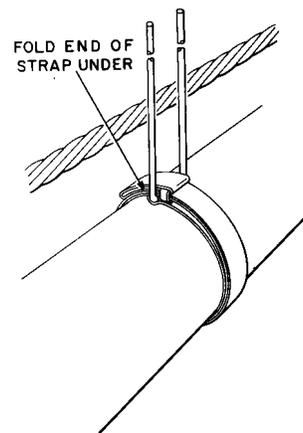

Fig. 15—Terminating Support Wraps
- (2) Complete the installation as outlined in 4.02 (4) and (5) and as shown in Fig. 15.